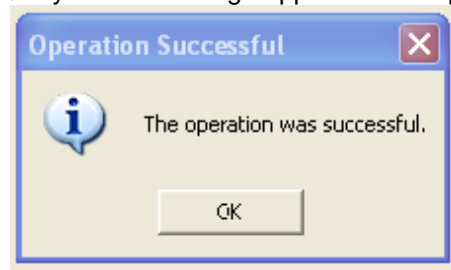

Figure 25
- An “Operation Successful” message appears if the operation is successful (Figure 25).